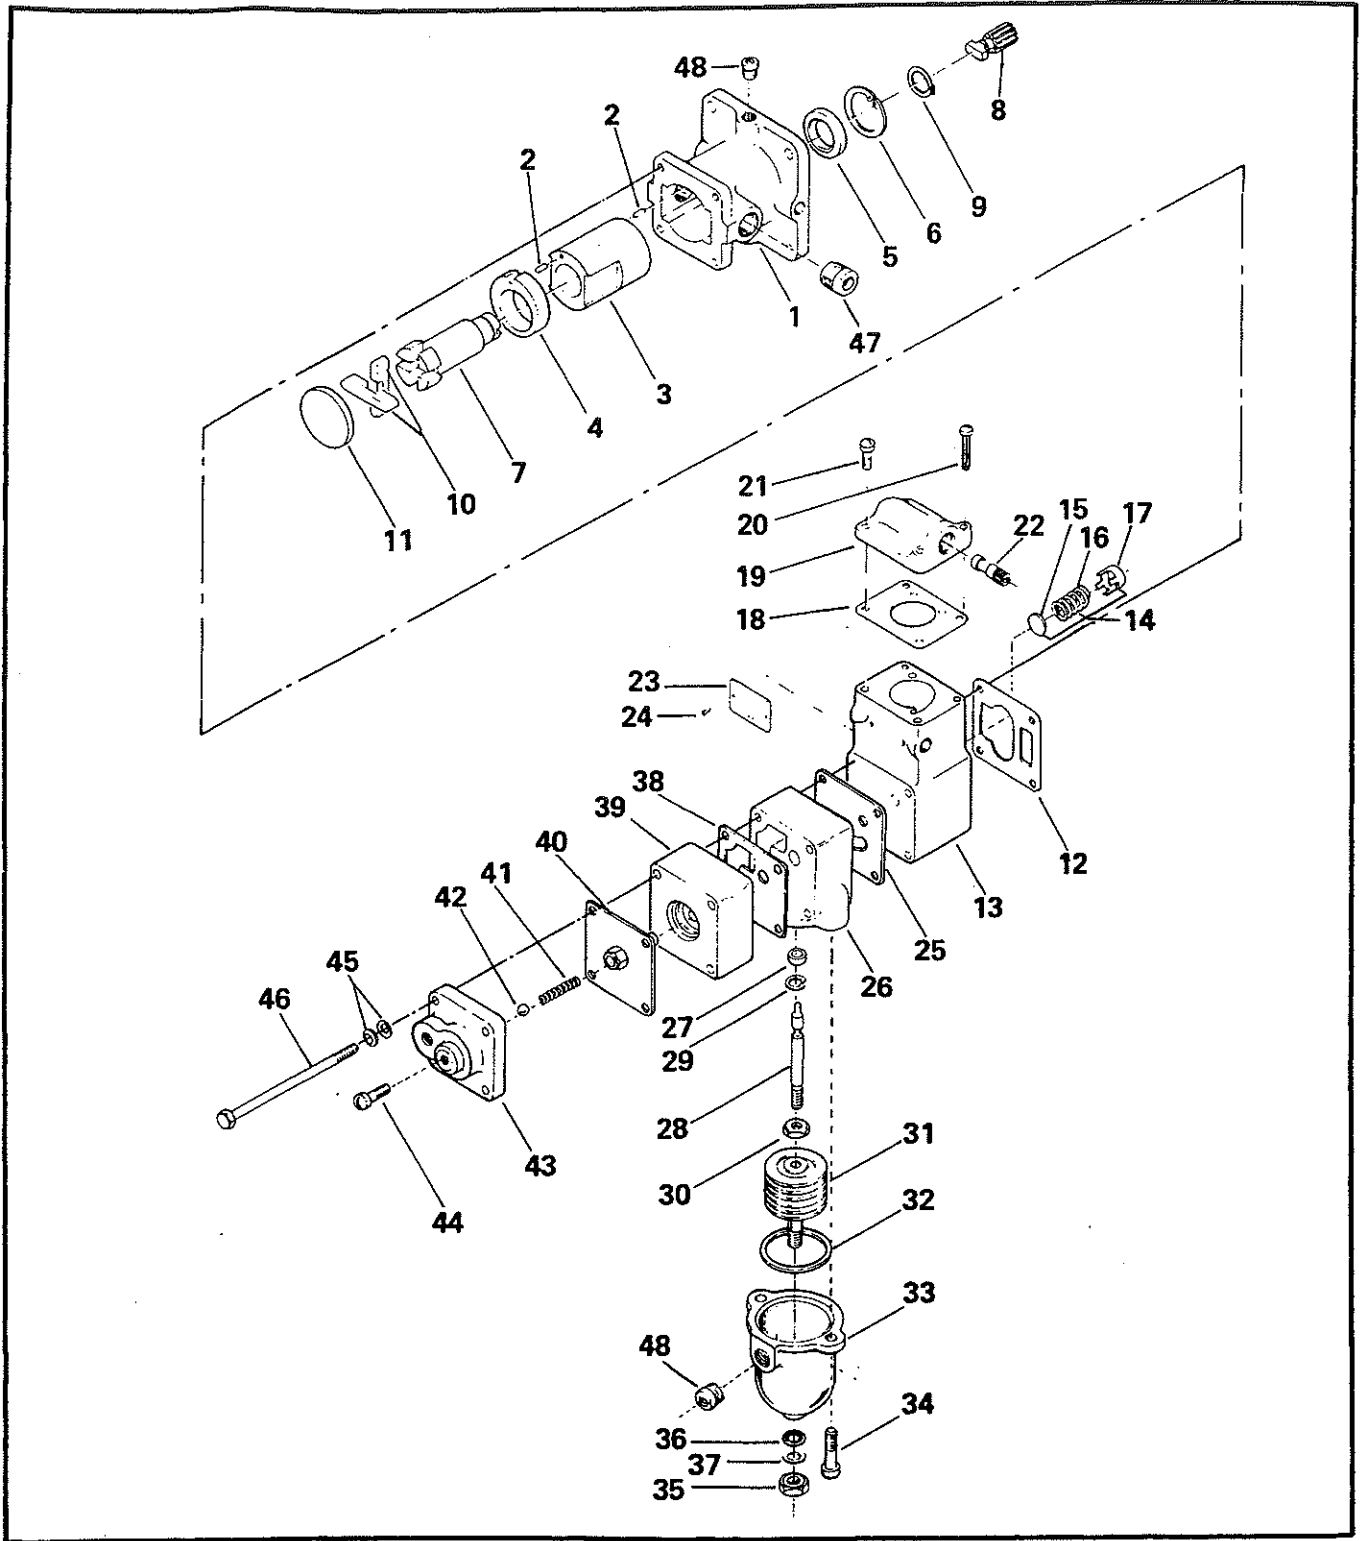

FIGURE 40-05. FUEL PUMP ASSEMBLY.
A. Assemble basic pump in reverse order of disassembly. Refer to exploded view (Figure 40-05) and proceed as follows: Install new seal (5) in pump body (1). Install retaining ring (6) at this time. Install shaft (7) in bearing (3) and through liner (4). A light coat of oil on seal lip will assist in the installation and assure lubrication of seal for first few revolutions when pump is tested. Install coupling (8) and retaining ring (9). Before installing blades (10), press rotor shaft down to seat on top of bearing and apply a light coat of oil. Install blades (10) in slots of rotor shaft (7) and rotate shaft. Install thrust plate (11). This completes assembly of basic pump.